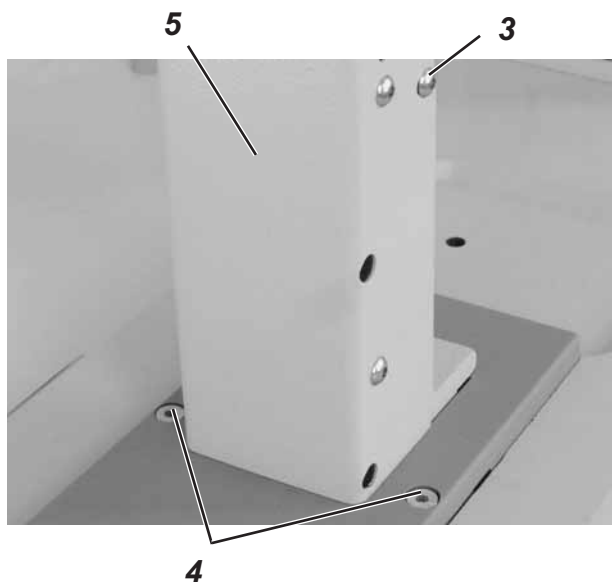

Fig. 2
- Loosen screw (3) and the two screws (4). Displace the post bed feed (5) so that rule 2.1 (A) = 0,1 mm according to **fig. 1** or rule 2.2 according to **fig. 2** is accomplished.